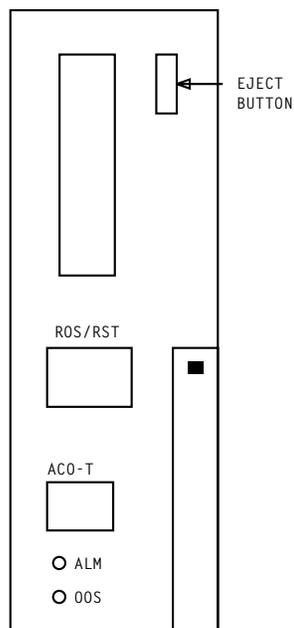

Figure 1. DAT Unit
1. See Figure 1. At 3B21D APS DAT unit that contains tape to be removed, depress eject button.